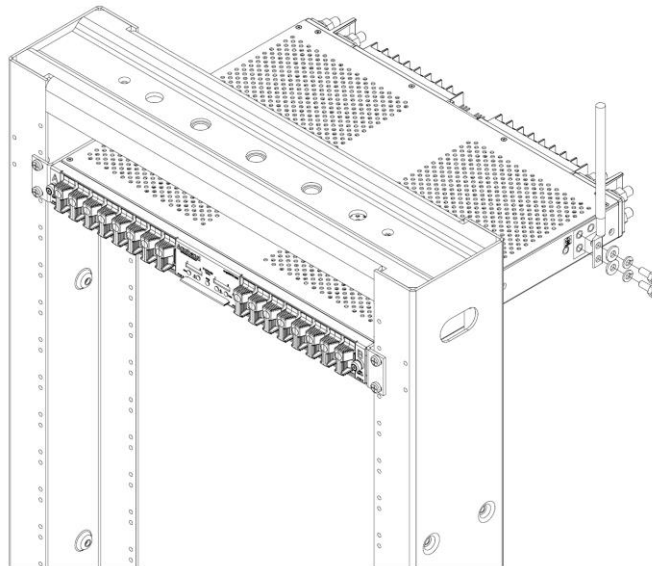

Fig. 2-6: Grounding Lug Connection
11. If required, lightly coat antioxidant on lug and grounding surface on the side or bottom of the panel. Connect the lug using $\frac{1}{4}$ -20 bolts, split washers and flat washers provided, as shown in Fig. 2-6.